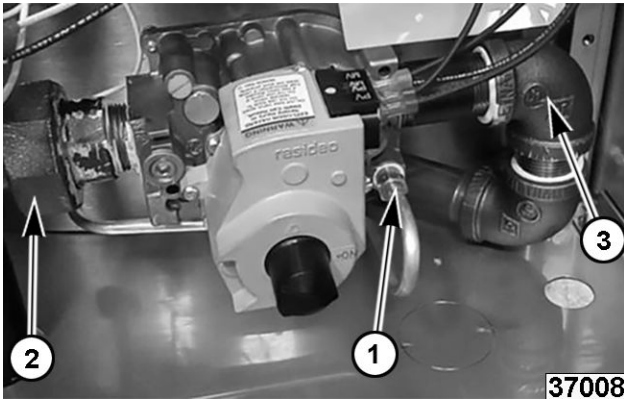

Fig. 12
1. Remove gas line (1, Fig. 12) from gas valve.
2. Loosen the pipe union (2, Fig. 12).
3. Loosen pipe elbow (3, Fig. 12).
4. Pivot at pipe elbow (3, Fig. 12) to rotate gas valve outward.